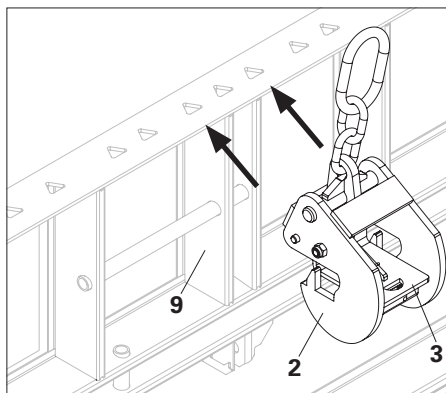

Fig. 3
- The spacing of 110 mm between the two locking hooks (6) and the guide plate (4) helps to maintain that the Crane Hook HSA will not fix at any location other than W-profile strut of the panel.
1. Position the housing (2) into the triangular slots on either side of the W-profile strut (9) by lifting up the spring-loaded lock plate (3). (Fig. 3)